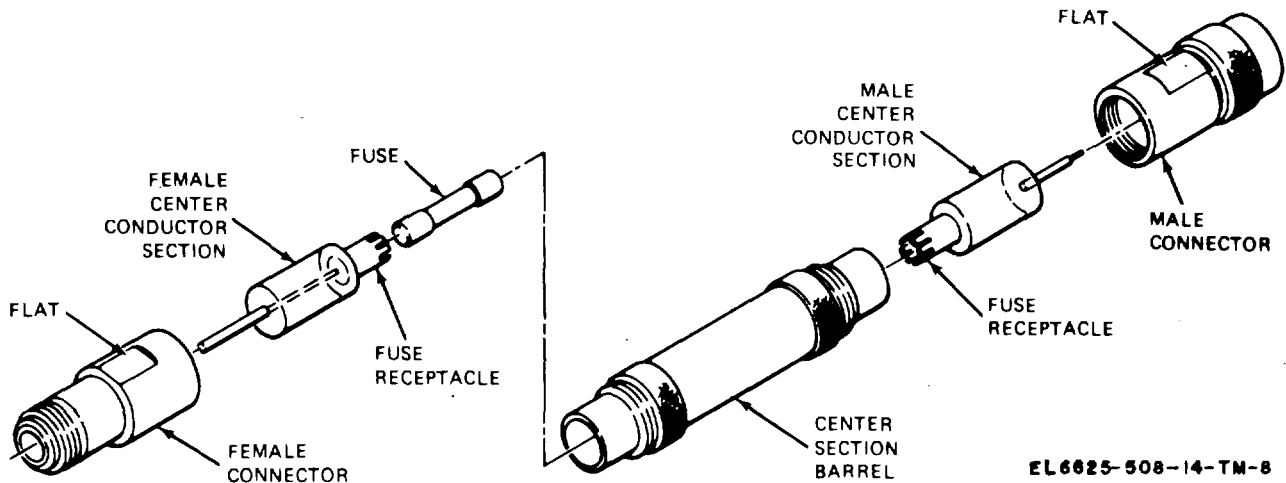

Figure 4-2. Fuseholder MX-1730/U, exploded view
- (1) Wrap center section barrel (fig. 4-2) with heavy cardboard.
- (2) Clamp center section barrel and cardboard in a vise. To prevent denting center section barrel, tighten vise only enough to keep barrel from turning.
- (3) Use two 11/16-inch open end wrenches on the flats to loosen the connectors.
- (4) Unscrew and remove the two connectors.
- (5) Remove the center conductor section from each end of the center section barrel.